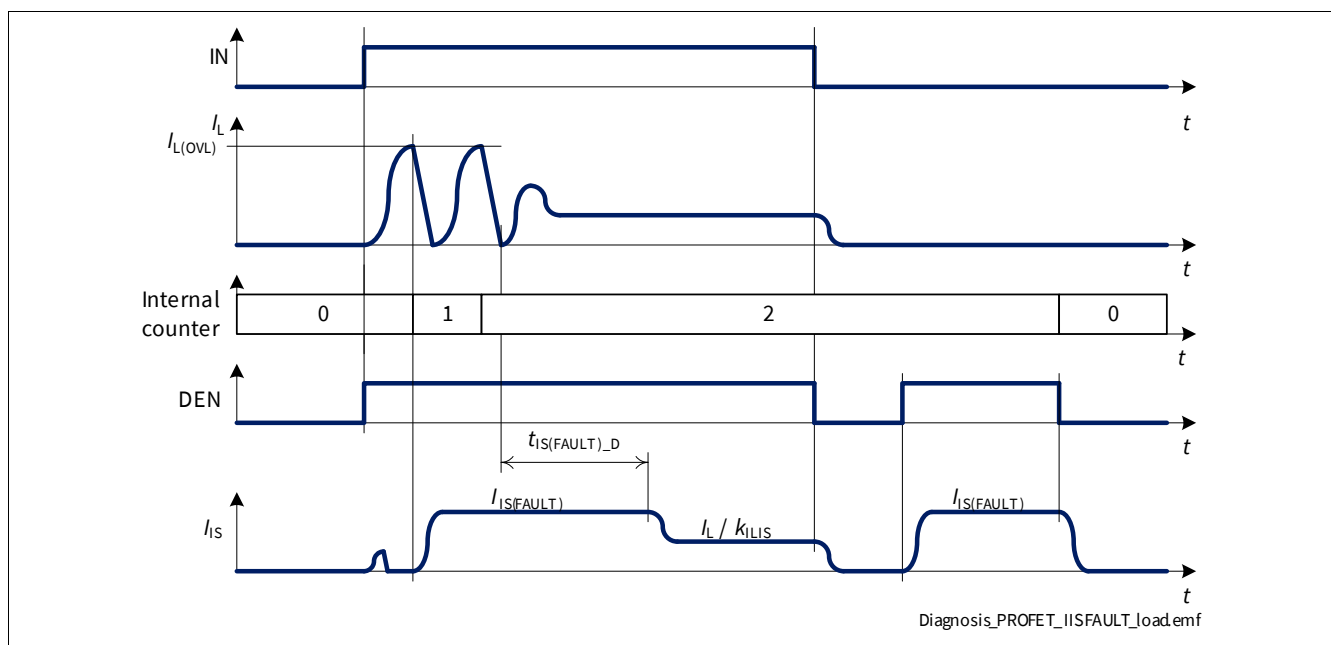

Figure 35  $I_{IS(FAULT)}$  at Load Switching
- if the channel is ON and the number of retries is lower than “ $n_{RETRY(CR)} + n_{RETRY(CYC)} * n_{RETRY(NT)}$ ”, the current  $I_{IS(FAULT)}$  is provided for a time  $t_{IS(FAULT)_D}$  after the channel is allowed to restart, after which  $I_{IS} = I_L / k_{ILIS}$  (as shown in Figure 35). During a retry cycle (while timer  $t_{RETRY}$  is running) the current  $I_{IS(FAULT)}$  is provided each time the channel diagnosis is checked